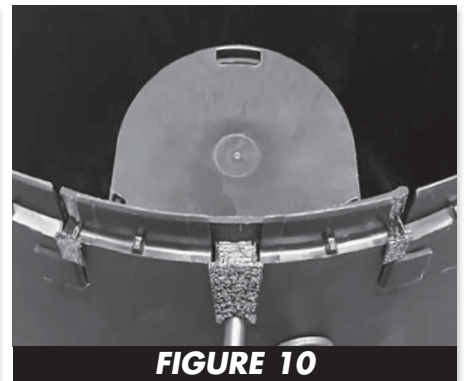

FIGURE 10
f. **BRINE WELL COVER** — Snap the cover over the brine well (**Fig. 10**).